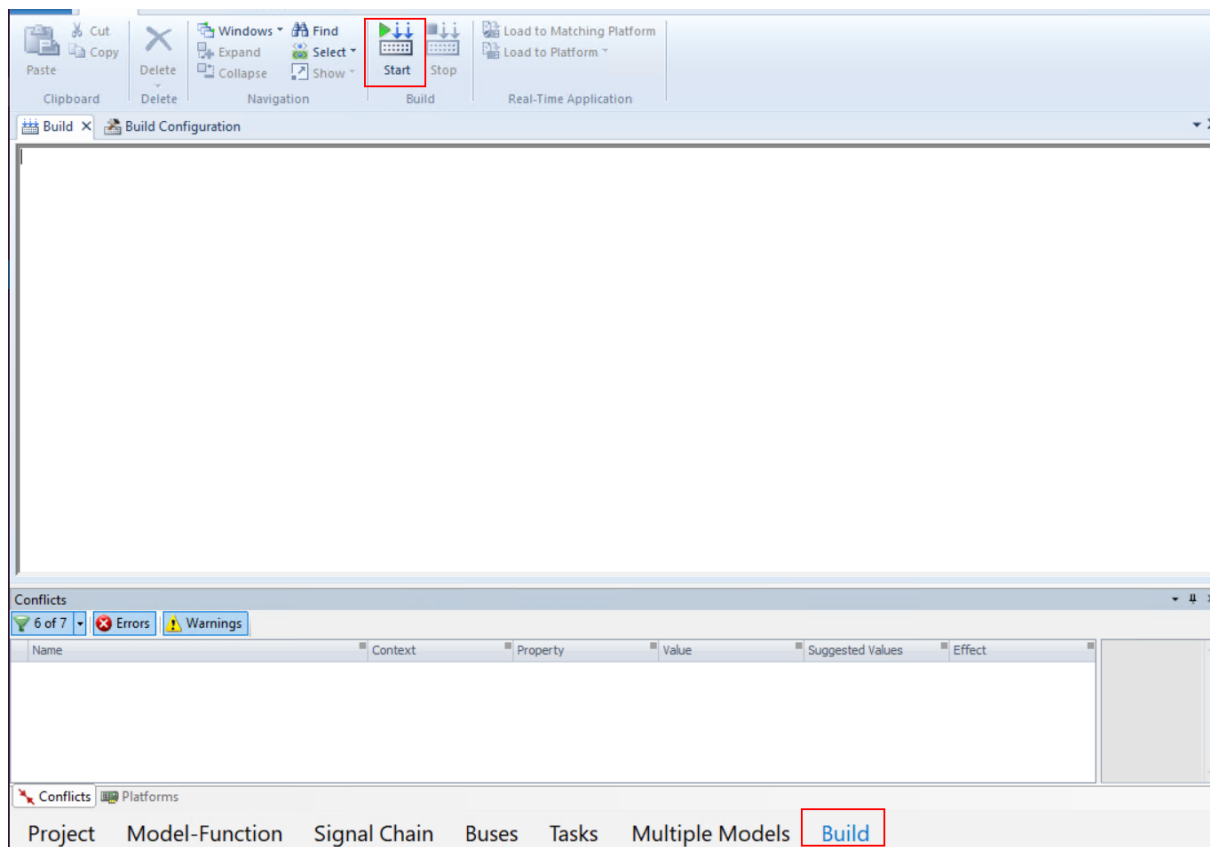

Figure 13.46: Build the project.
- 17) Go to the build tab and start the building process. After building is complete the application will be loaded automatically in the dSPACE platform (see Figure 13.46).